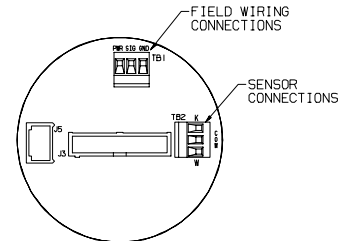

Figure 4. Sensor Wire Connections
- c. Remove upper portion of the terminal wiring connector containing sensor wiring (FIGURE 4); disconnect sensor wires and re-install upper portion of connector.
- c. Remove upper portion of the terminal wiring connector containing sensor wiring (FIGURE 4); disconnect sensor wires and re-install upper portion of the terminal wiring connector.